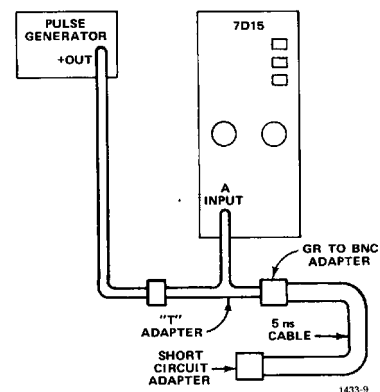

Fig. 5-6. Equipment setup used to check TIM WIDTH A accuracy.
b. Remove the Feed-Through Termination from the cable and connect as shown in Figure 5-6.